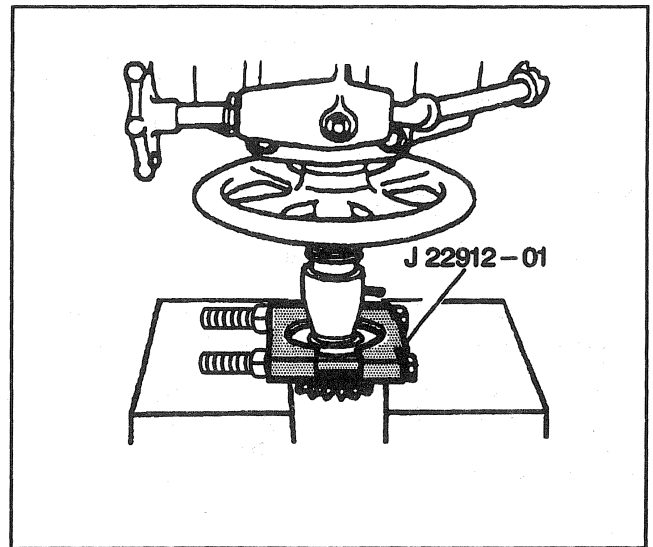

Figure 4—Removing the Thrust Sleeve
- Press the sleeve from the side gear (Figure 4).